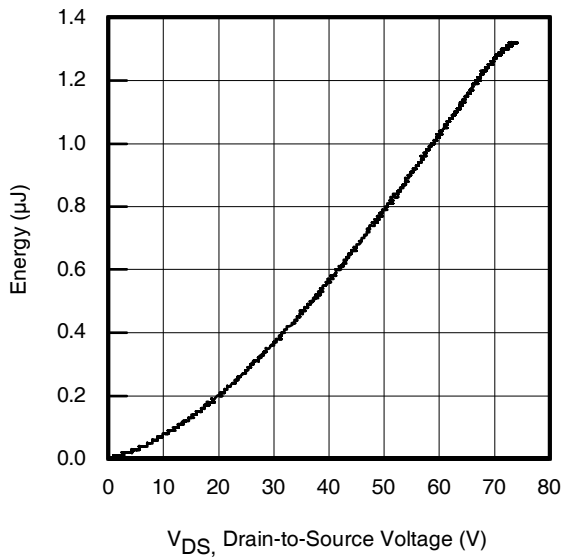

Fig 11. Typical C_{OSS} Stored Energy
| C _{oss} eff. (ER) | Effective Output Capacitance (Energy Related) | — | 570 | — | | V _{GS} = 0V, V _{DS} = 0V to 60V ^⑦ , See Fig.11 |